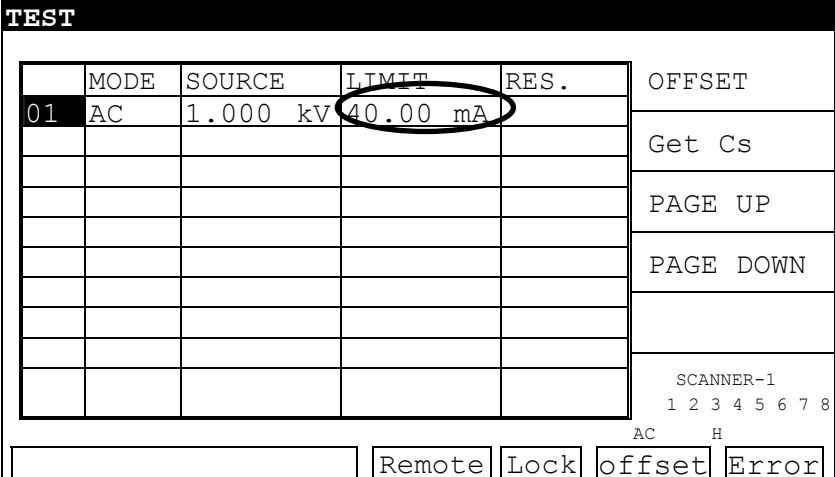

Figure 4-6
- (1) Auto Range function sets as ON.
- (2) The current range sets to high range i.e. 40mA as Figure 4-6 shown.